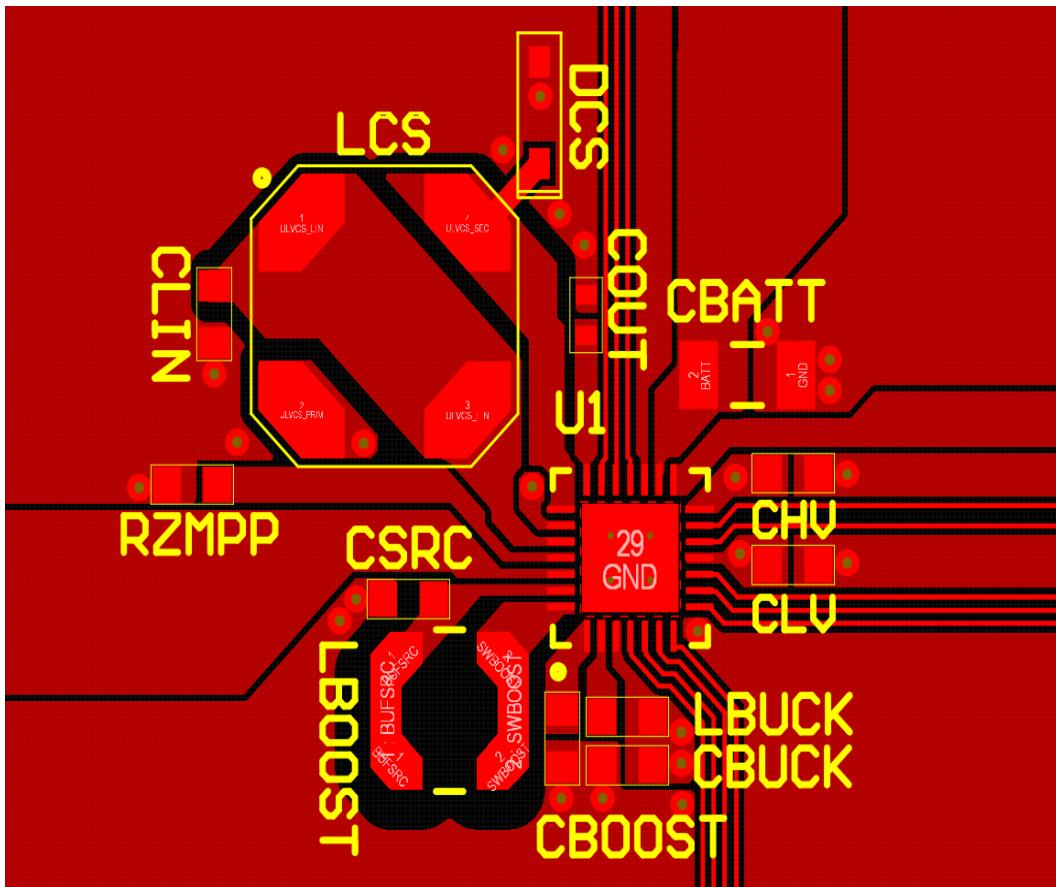

Figure 23: Layout example for the AEM20941 and its passive components
- The switching nodes (**BUFSRC**, **SWBOOST**, **SWBUCK** and **BUCK**) must be kept as short as possible, with minimal track resistance and minimal track capacitance. Low resistance is obtained by keeping track length as short as possible and track width as large as possible between these switching nodes and the AEM20941 pins. Minimal capacitance is obtained by maintaining a large distance between the switching nodes and other signals. We recommend removing the ground plane, the power plane and the bottom layer ground pour under **L_{BOOST}** and **L_{BUCK}** footprints, as well as adding distance between **BUFSRC/SWBOOST** and the top ground pour, as shown in Figure 23.
- The **GND** return path between the decoupling capacitors and the AEM20941 thermal pad, which is the AEM20941 main **GND** connection, must be as direct and short as possible. This is preferably done on the top layer when possible, otherwise by internal/bottom plane, using low resistance vias to decrease layer-to-layer connection resistance. In Figure 23, this **GND** return path is done on an internal plane.